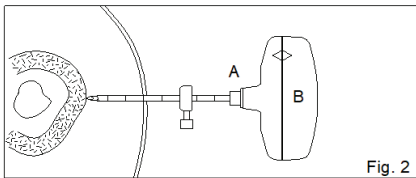

Fig. 2
**FIG. 2** Move the depth gauge forward until in contact with the skin, then withdraw it by the desired depth, using the centimeter markings on the Cutting Cannula (A) to provide a visual guide.